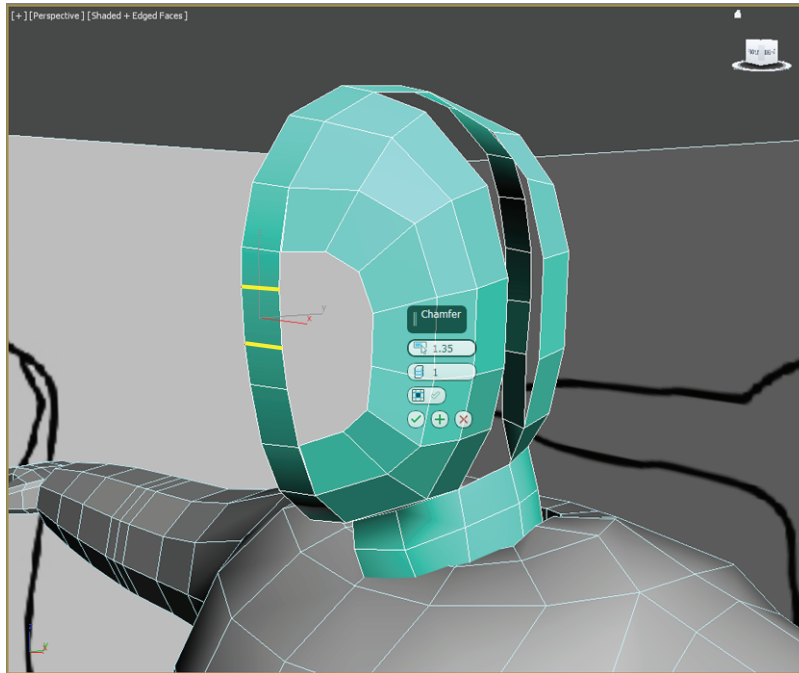

FIGURE 9.10 Chamfer the edge that falls at the bridge of the nose.
13. Select the edge closest to where the bridge of the nose would be, and then use Chamfer (from the Graphite Modeling Tools tab, choose Edges > Chamfer > Chamfer Settings) with an Edge Chamfer Amount value of 1.346, and then click OK. Try to keep the edges equally spaced, as shown in Figure 9.10.